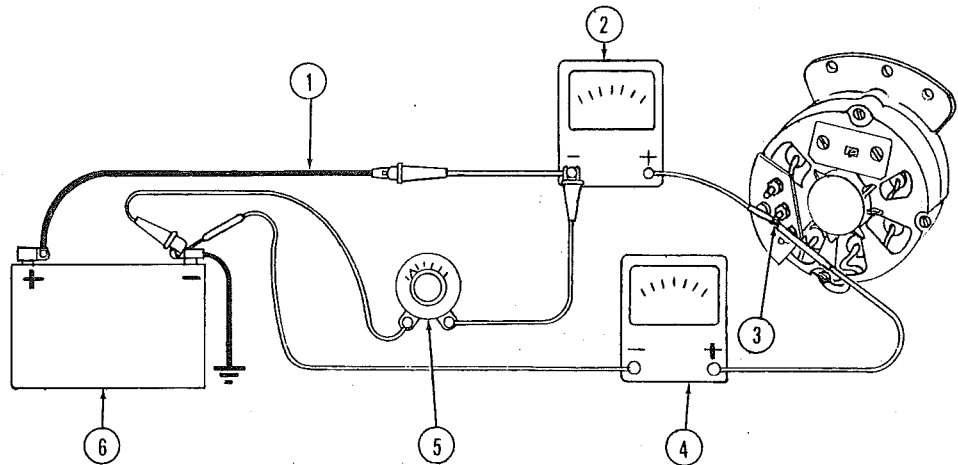

FIG. 69—ALTERNATOR SYSTEM TEST
This test checks the current output of the alternator to determine if the system is functioning properly. For proper connections, refer to Fig. 69.
a. With the engine off, connect voltmeter, ammeter, and carbon pile as described in Par. H-10 and shown in Fig. 69.
- a. Connect a 60-ampere ammeter and a carbon pile load as shown in Fig. 69.